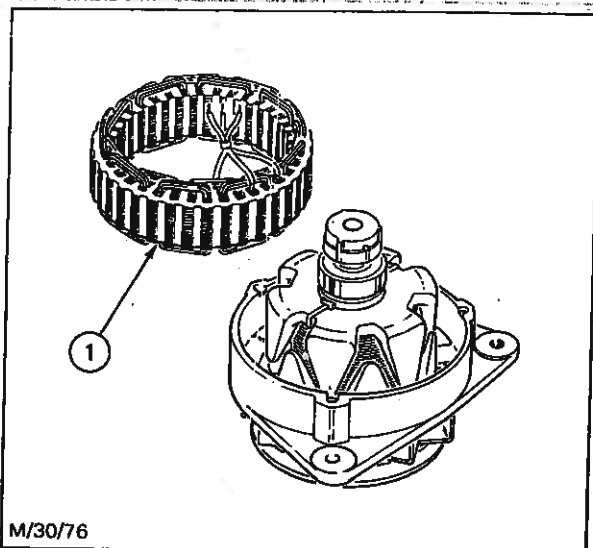

Fig. 18 - Removing Stator Assembly
2. Remove stator assembly (1) - see Fig. 18.